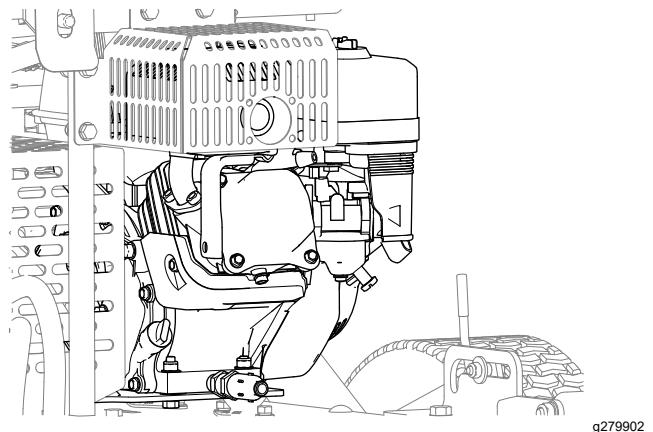

Figure 42
4. Clean dirt and debris from the engine and the engine-cooling fins (Figure 42).